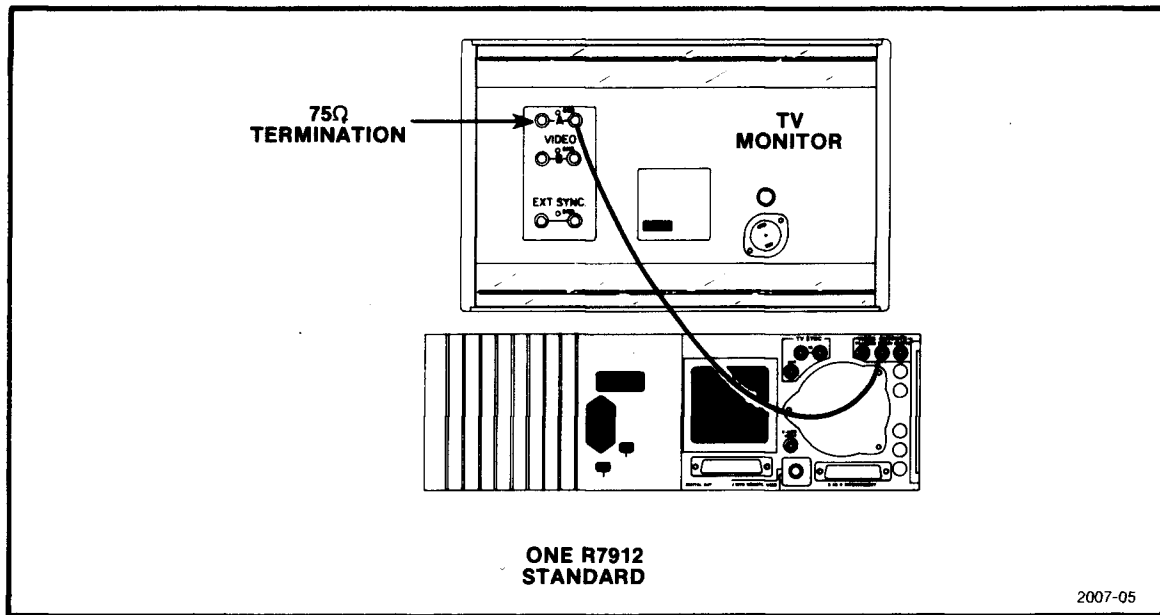

Fig. 2-5. Standard WP2052 video cabling.
6. Video cable connection varies with different options. Figures 2-5 through 2-10 show the cabling configurations for Standard WP2052 Packages and WP2052 Packages with Options 41-45. Refer to the figure applicable to your system. Make all the connections shown in the figures, including termination resistors (included in accessories). All cables used in these figures are 012-0074-00 1.1 meter (42-inch) 75 ohm BNC cables.